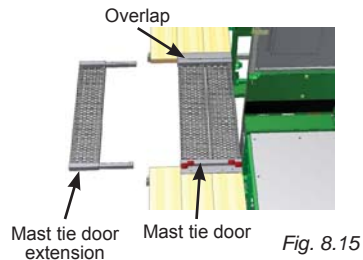

Fig. 8.16
- 5- Install the proximity switch (fig. 8.16) on the main frame. Use the upper position if the mast tie door was installed at platform level.